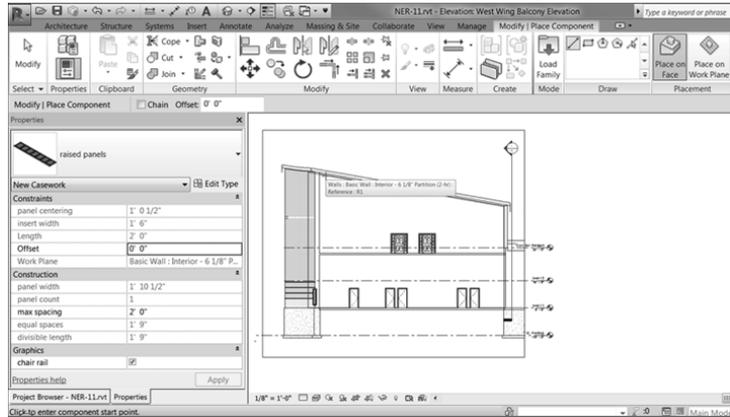

FIGURE 10.75: Picking the far wall to establish a work plane
8. Pick a point, as shown in Figure 10.75; then press Esc.
13. Scroll down the Type Selector list until you find Raised Panels (see Figure 10.75).
15. Pick the far wall (see Figure 10.75). If you don't have the raised panel family, you can download it at the book's web page; it's called Raised Panel.rfa. Once it's downloaded and loaded into the model, proceed with the next step.
NOTE If you can't seem to pick the points specified in Figure 10.75, go ahead and pick two points close to the area indicated in the figure. After you place the line-based family, you can select it and grip-edit the ends to extend to the wall's edges as shown in the figure. Also, if the panels are too high, simply move them down to the floor or align them after the panels are in place.